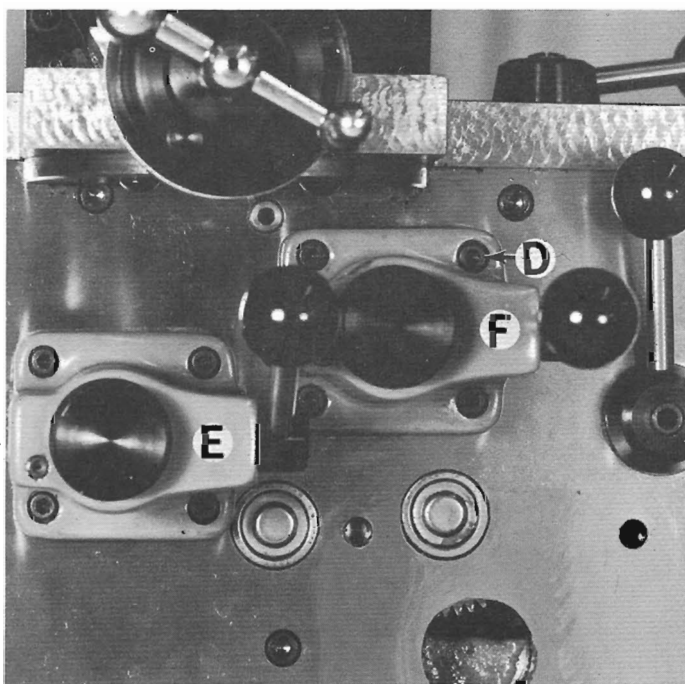

Figure 108 — Carriage Clutches
4. Remove eight screws "D", Figure 108, and clutch housings "E" and "F".
12. Permatex seal clutch housings. Pack spring "A", Figures 125 and 126 with Shell Alvania #3 grease. Replace clutch housings and eight screws "D", Figure 108.